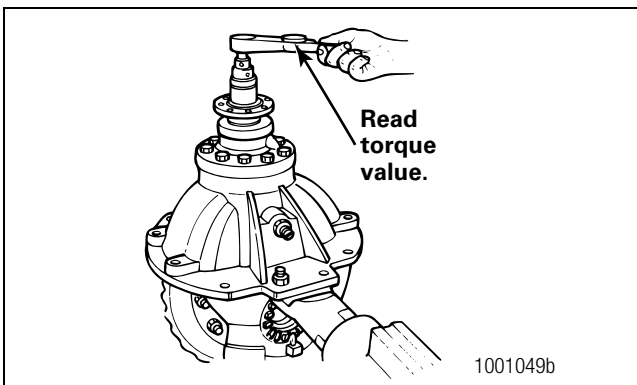

Figure 5.18
7. Attach a torque wrench onto the drive pinion nut. Rotate the drive pinion and read the value indicated on the torque wrench. Figure 5.18.